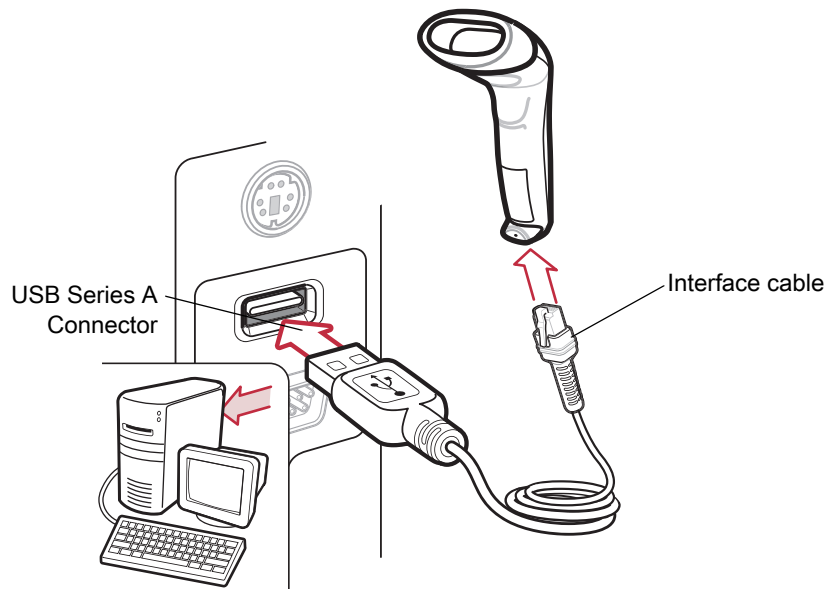

Figure 1 USB Connection
- ✓ **NOTE:** Interface cables vary depending on configuration. The connectors illustrated in Figure 1 are examples only. The connectors may be different than those illustrated, but the steps to connect the scanner remain the same.